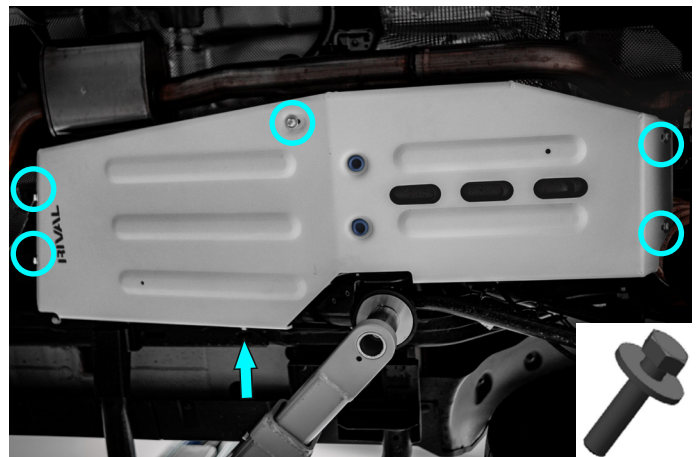

Fig. 8
8. Fix the fuel tank skid plate (item 1) using bolts M8x25 (item A) and washers 8 (item C) as shown in fig.8